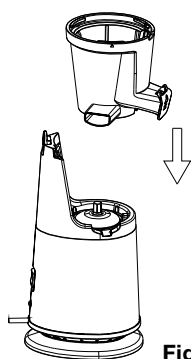

Fig. 1
1. Before putting the jar in position, please check if the inner plug is placed in the residue outlet (see Fig.2). Place the jar downwards on the motor unit (see Fig.1).